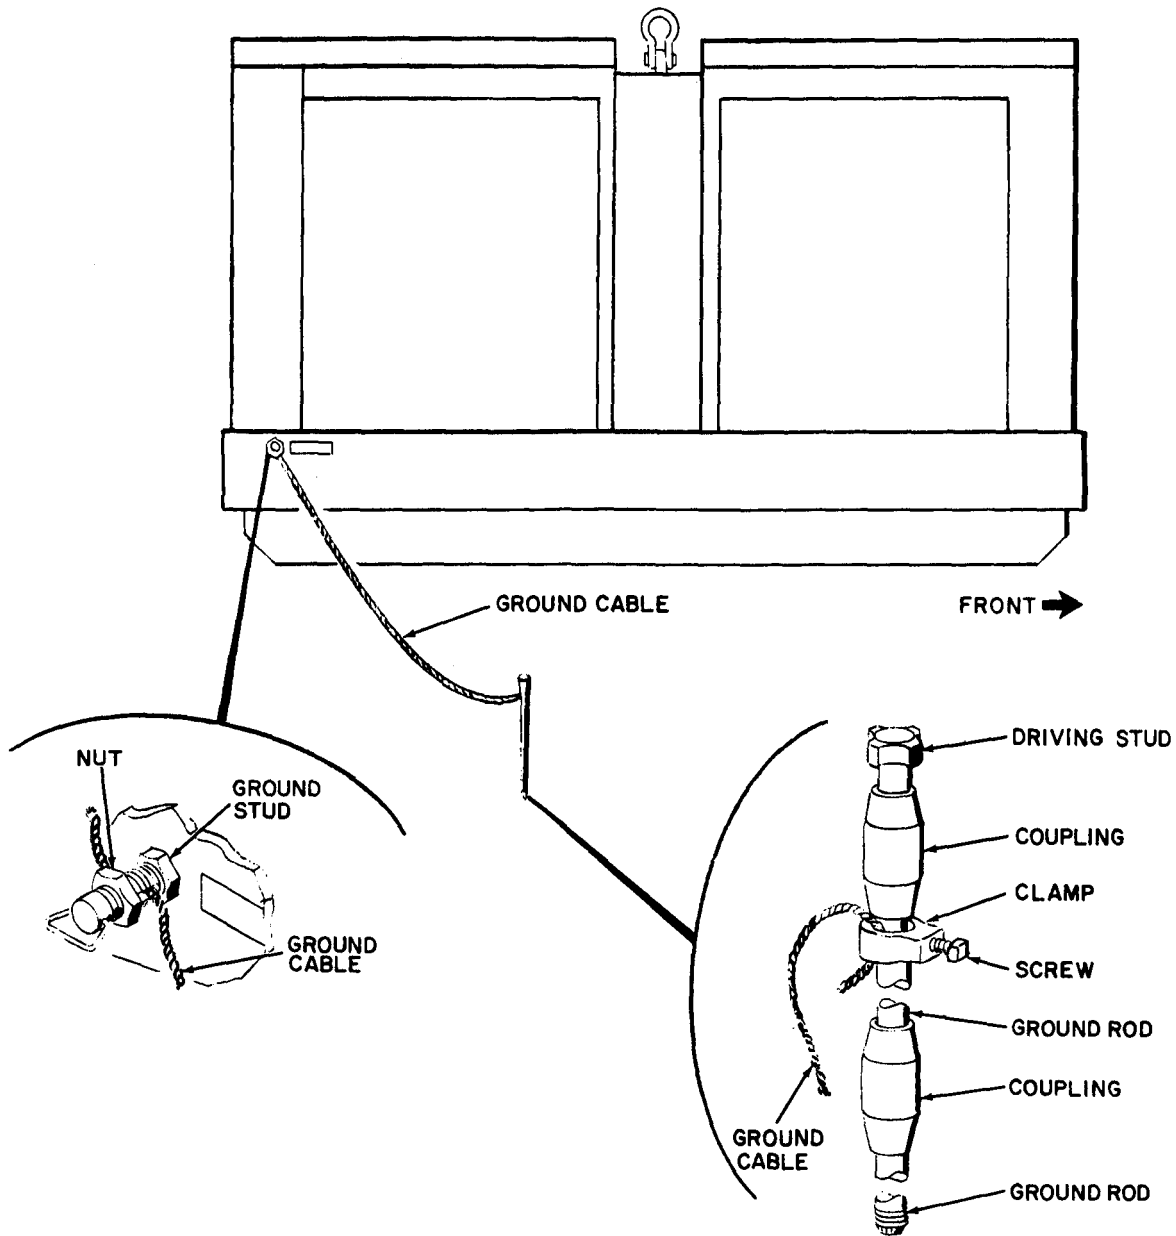

Figure 2-3. Grounding procedures
e. GROUNDING. The generator set must be grounded prior to operation. The ground can be, in order of preference, an underground metallic water piping system, a driven metal rod, or a buried metal plate. A ground rod must have a minimum diameter of 5/8 inch if solid or 3/4 inch if pipe, and must be driven to a minimum depth of 8 feet. A ground plate must have a minimum area of 9 square feet and must be buried at a minimum depth of 4 feet. The ground lead must be at least No. 6 AWG (American Wire Gauge) copper wire and must be bolted or clamped to the rod, plate, or piping system. Connect the other end of the ground lead to the generator set ground terminal stud (figure 2-3). The following procedures are to be used to install grounding rods when required.
3. Disconnect ground cable from ground stud by loosening nut, refer to figure 2-3. Disconnect ground cable from ground rod by loosening screw. Tape ends of ground cable to prevent unraveling and place cable in tool box.